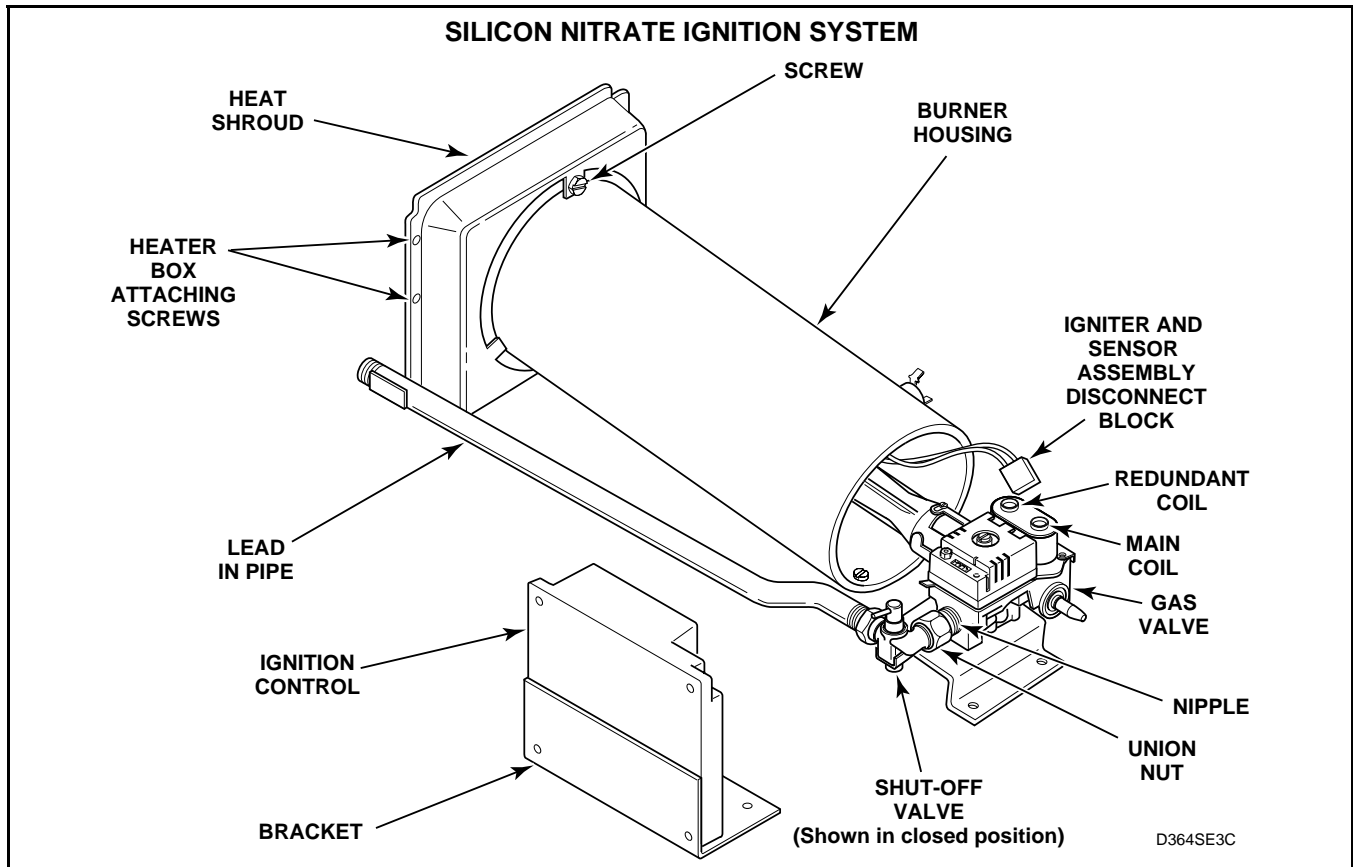

Figure 38
Silicon Nitrate Ignition: Disconnect wire harness from igniter and sensor assembly, and from gas valve coils at disconnect blocks. See Figure 38.
Silicon Nitrate Ignition: Disconnect wire harness from igniter and sensor assembly, and from gas valve coils at disconnect blocks. See *Figure 38*.
- Remove screw holding burner housing to heat shroud. See *Figure 38*.